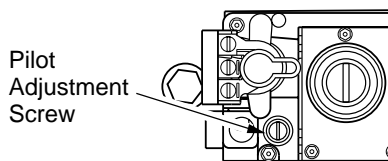

Figure 20 - Locating Pilot Adjustment Screw
- Turn the adjustment screw marked pilot clockwise to decrease or counterclockwise to increase the flame to proper size (see Figure 20). Do not remove the adjustment screw.